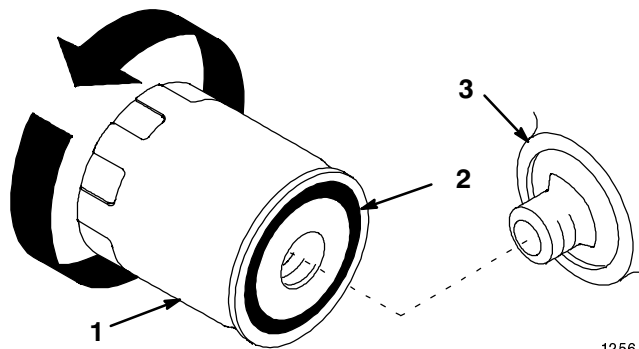

Figure 46
8. Remove the transaxle filter and wipe the filter adapter (Fig. 46) gasket surface.
9. Apply a thin coat of new oil to the rubber gasket on the replacement filter (Fig. 46).
10. Install the replacement transaxle filter to the filter adapter. Turn the filter clockwise until the rubber gasket contacts the filter adapter, then tighten the filter an additional 3/4 turn (Fig. 46).